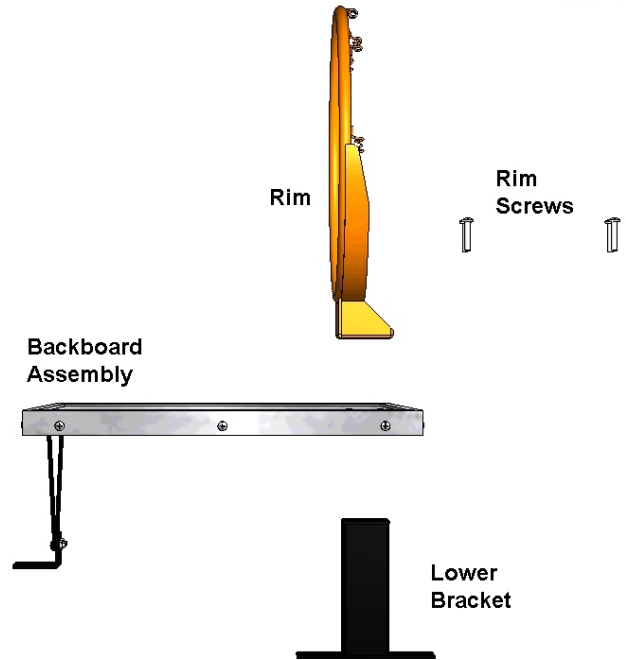

Figure 6
1. Set the Lower Bracket on a flat surface with the four holes facing up. See Figure 6.